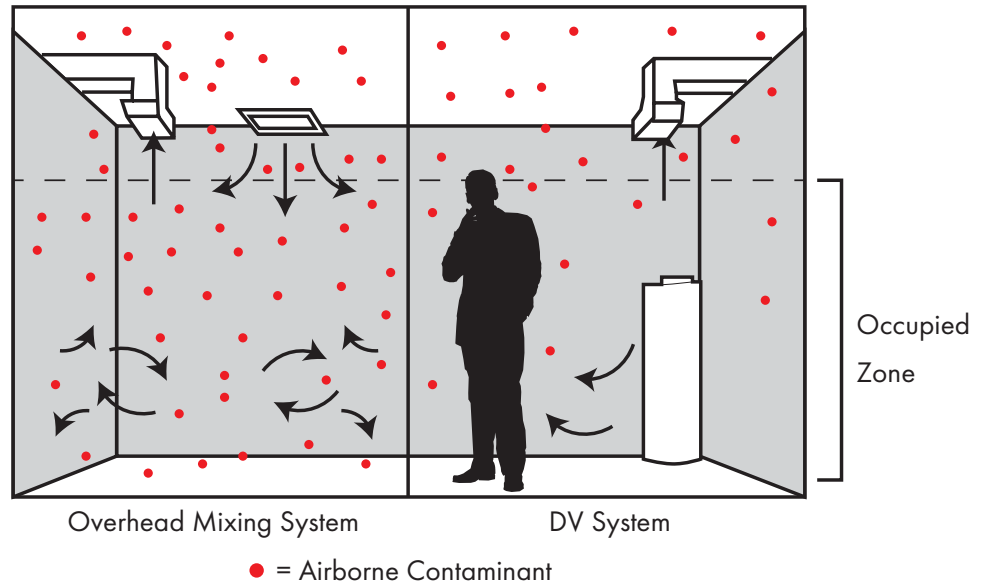

Fig. 4 - Mixing vs DV System
Overhead mixing systems utilize high velocity supply discharge air, typically delivered and exhausted at or near ceiling level (**Fig. 4**). This high velocity discharge air creates a low pressure region at the outlet of the diffuser near the ceiling surface, causing induction of room air that mixes with the supply air jet. If designed properly, this constant mixing of room and supply air generates a near constant temperature gradient from floor to ceiling, resulting in a Zone Air Distribution Effectiveness (EZ) of 1.0 per ASHRAE 62.1. If not designed properly, potential disadvantages of all-air overhead mixing systems are: